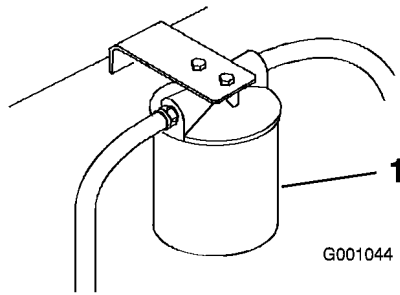

Figure 60
3. Place drain pan under filter, remove the old filter and wipe the filter adapter gasket surface clean (Figure 60).